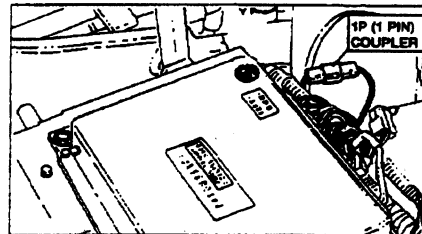

FIGURE 6.33
8. Locate and disconnect CPU 1P (1Pin) coupler. Connect Special Adjustment Harness to 1P coupler. See Figure 6.33.